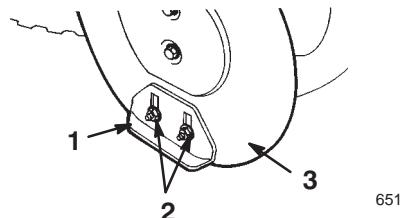

Figure 22
5. Loosen the 4 flange nuts that secure both skids to the auger side plates (Fig. 22) until the skids slide up and down easily.
10. Tighten the 4 flange nuts that secure both skids to the auger side plates (Fig. 22).